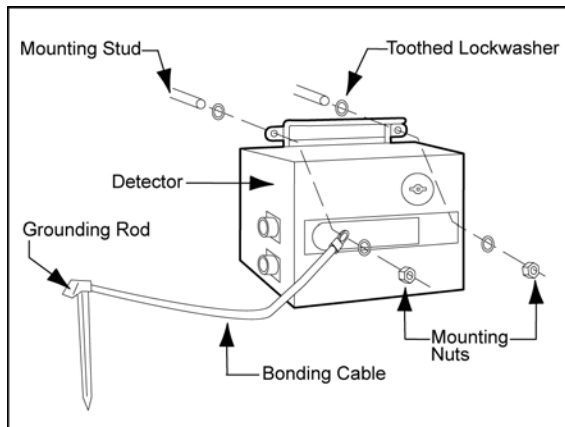

Figure 10. Grounding Rod Installation
2. Secure a bonding cable (4-12 gauge insulated wire) between the detector and the grounding rod as shown in Figure 10. Grounding Rod Installation.